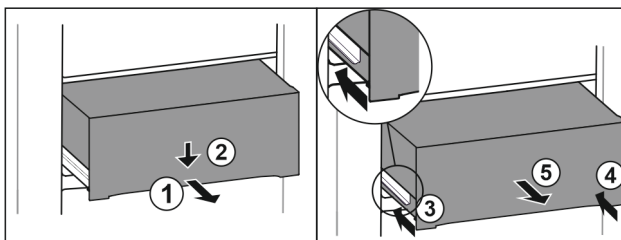

Fig. 119
- Pull out drawer half-way. Fig. 119 (1)
- Push the drawer down at the front. Fig. 119 (2)
- Push the left rail in by about 2 cm. Fig. 119 (3)
- Push the right rail in by about 2 cm. Fig. 119 (4)
- Remove drawer to the front. Fig. 119 (5)